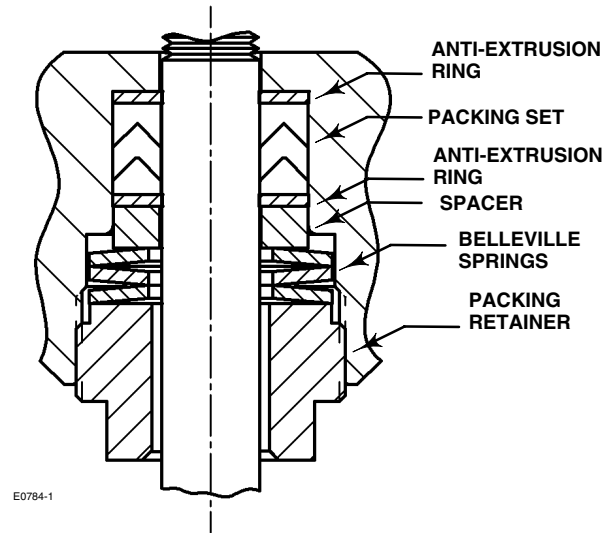

Figure 8. Packing and Belleville Spring Stacking Order (Appendix A)
8. Unscrew the flow adjuster socket head cap screws (key 29), and remove the flow adjuster halves.
9. Unscrew the packing retainer (key 7) from the bonnet (key 2). After the packing retainer has been unscrewed from the bonnet, pull the valve stem and plug out of the bonnet.
10. Remove the three Belleville springs (key 9), packing spacer (key 10), packing (key 11), and two anti-extrusion rings (key 12) from the bonnet. See figure 8.
14. Inspect the valve stem bushing (key 8) located in the upper end of the bonnet. If damaged, remove and replace it with new bushing (key 8). Replace the valve stem bushing by inserting the bushing, flange end first, into the bore located at the top of the bonnet flow adjuster window. Insert until the flange snaps into the groove provided for it.
15. Remove the O-ring (key 17) from the upper end of the bonnet. Replace it with a new one, and lubricate it with lithium grease.
16. Install new packing according to the packing arrangement shown in figure 8, Apply a light film of lithium grease to the threads of the packing retainer (key 7). Install the Belleville springs and packing retainer, as shown in figure 8, but do not tighten.
18. **Tighten the packing retainer to a range of 81 to 95 N•m (60 to 70 lbf•ft). Then loosen the packing retainer 30 degrees counter-clockwise. See figure 8.**
19. If the bottom casing (key 20) has been removed, place O-ring (key 16) into the groove provided in the top of the bonnet. Place the bottom casing on the bonnet, oriented in the same position as marked in step 7 on page 8. Screw the hex nut (key 18) onto the bonnet, and tighten to 203 N•m (150 lbf•ft).